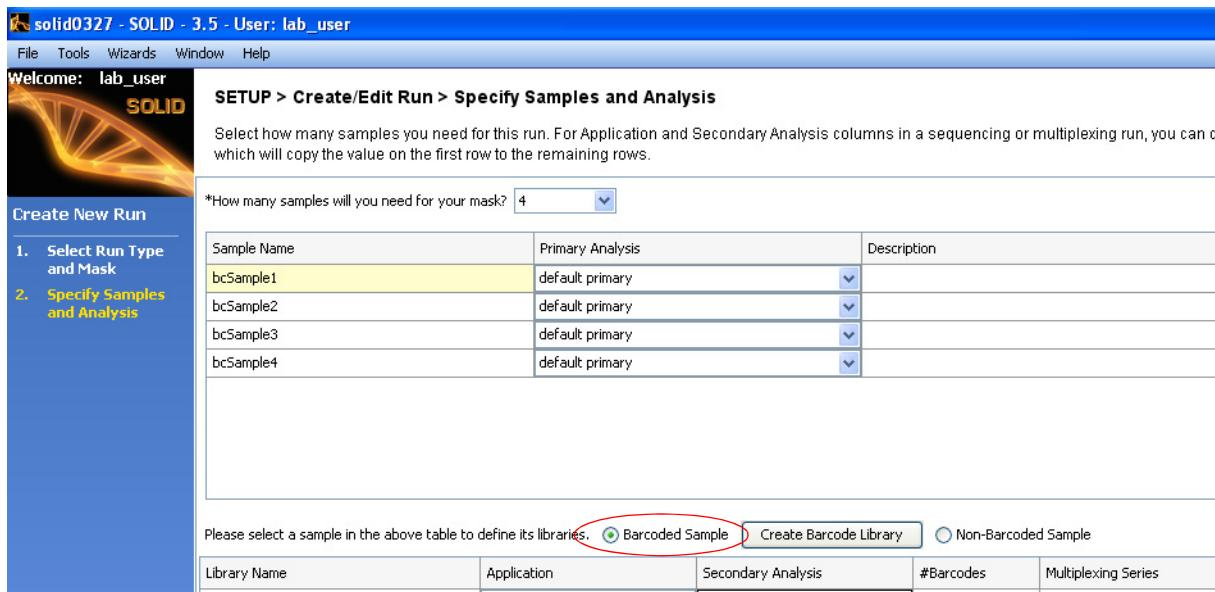

Figure 51 Complete the information in the Specify Samples and Analysis pane.
3. Complete the information in the Specify Samples and Analysis pane (see Figure 51 on page 58):
4. For a barcode sample, select **Barcode Sample** and click **Create New Library** to begin entering library information for that sample (Figure 51). If there are any non-barcode fragment library samples to be sequenced on the same slide as barcode samples, select **Non-barcode Sample** for that sample.